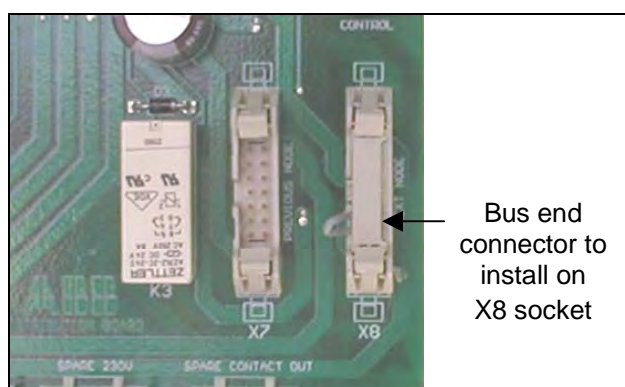

Figure 7.33. Bus end connector illustration
- Plug the bus end connector into the new unit's distribution board (connector X8). This is shown in Figure 7.33. below.